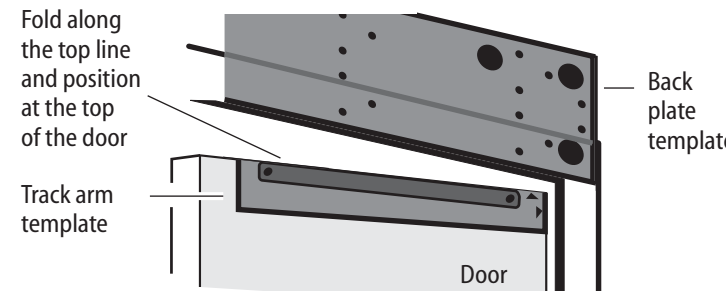

Figure 3 — Aligning the back plate to the push arm template, right-hand door shown
- 7 Carefully place the Track Arm Mounting Template in position on the door as shown in Figure 3. Follow the instructions on the template.